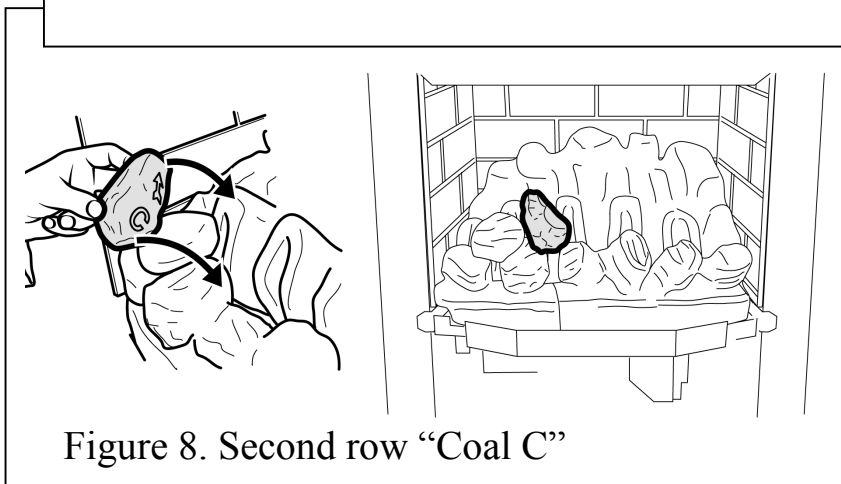

Figure 8. Second row "Coal C"
10. Hold coal 'C' upright with the arrow pointing to the top. Locate coal 'C' as shown in figure 8.